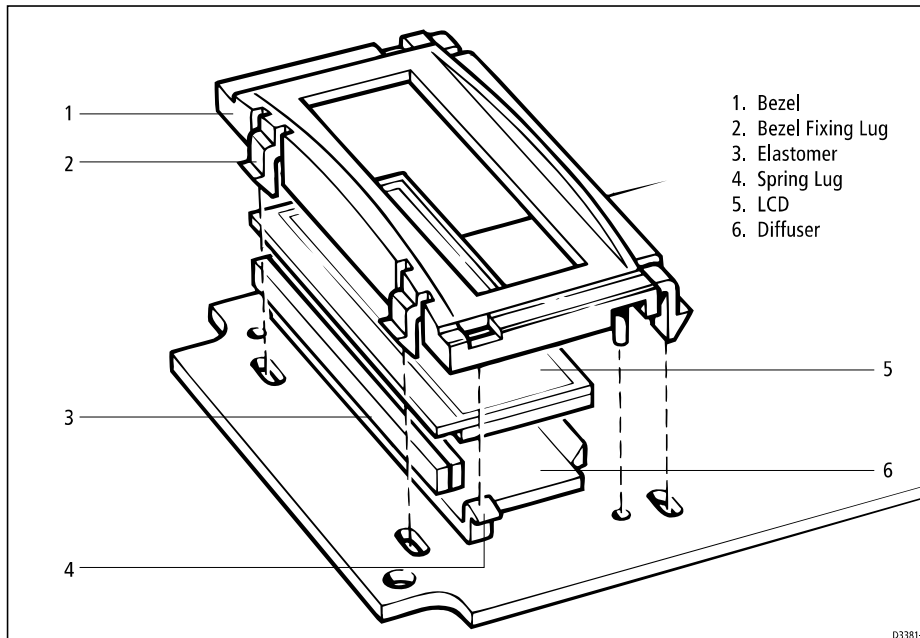

Figure 2. Display Assembly
- 3. Motor/Gearbox Assembly (see Figure 2 for detail)
Refer to Figure 2.